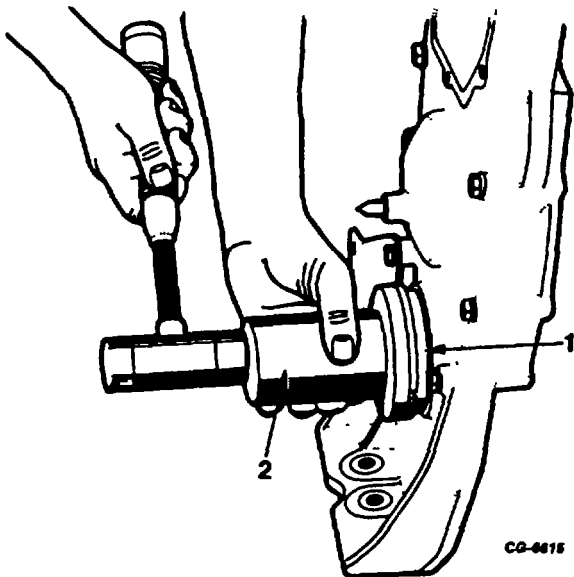

Figure 140. Installing Engine Front Cover Oil Seal
- c. Place installer over end of crankshaft and drive seal into cover (Figure 140). Seal is properly located when inner shoulder on tool contacts machined surface of front cover.